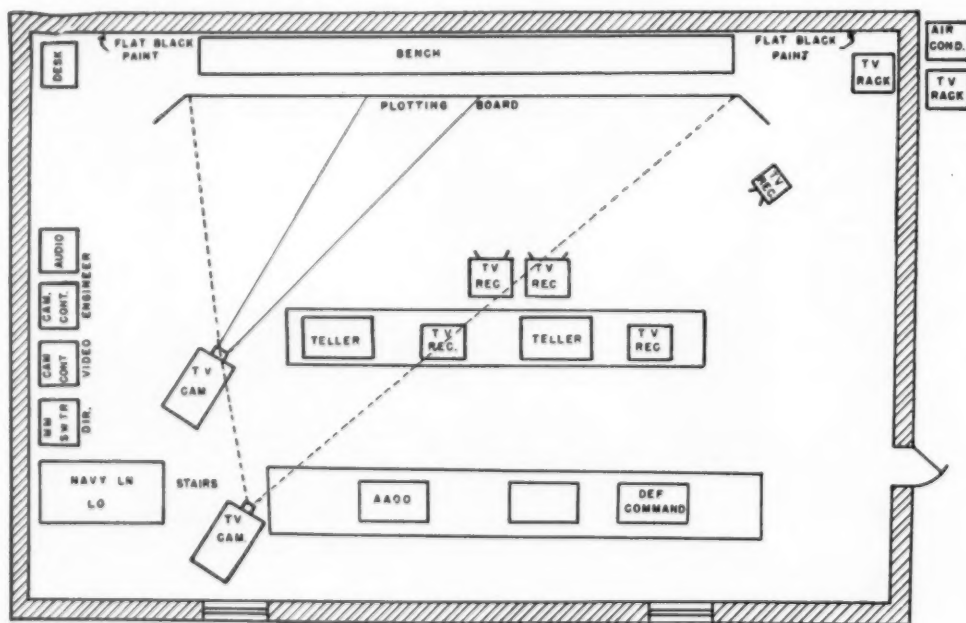

Fig. 3. Layout of Army Air Defense Command Post, Norfolk, Va.
board and *tells* them (by telephone) to the men behind the Army's board at Norfolk (Fig. 3); and (3) Army men then *plot* similar information on the board which can then be *read* by Army operations personnel.